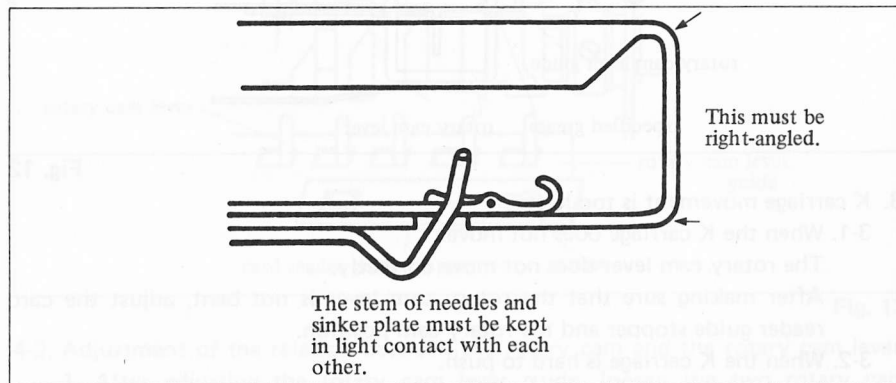

Fig. 10
4. When L carriage sinker plate is crooked. (Fig. 10).